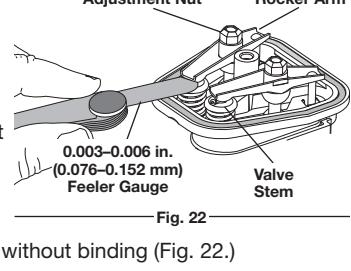

Fig. 22
- Slide the feeler gauge between the rocker arm and the valve return spring. Measure the clearance between the valve stem and rocker arm (Fig. 22). Measure both the intake and exhaust valves.
The recommended clearance for both intake and exhaust is .003 – .006 in. (.076 – .152 mm). Use a standard automotive .005 in. (0.127 mm) feeler gauge. The feeler gauge should slide between the rocker arm and valve stem with a slight amount of resistance, without binding (Fig. 22).
- Turn the adjusting nut using a 5/16 inch (8 mm) wrench or nut driver (Fig. 22).